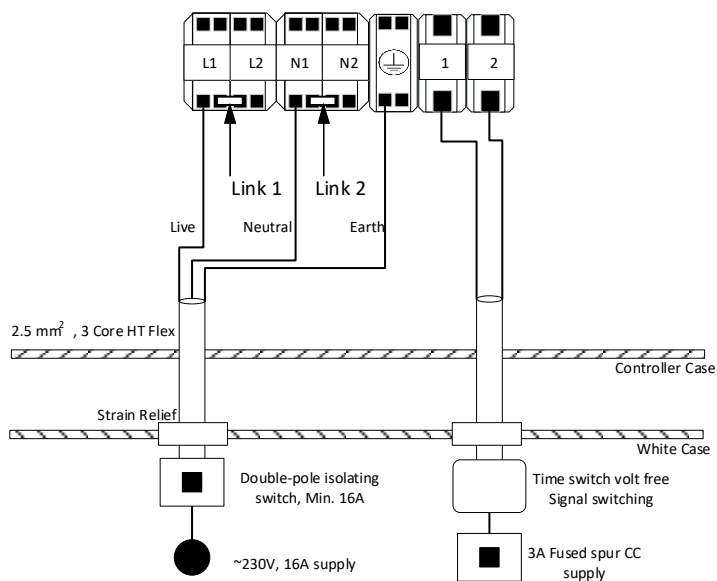

Figure 13.2: Wiring option 2 - on-/off-peak tariff with external time-switch
- Remove charge link, connecting terminals 1 & 2 on the Sunamp controller (Figure 13.2).